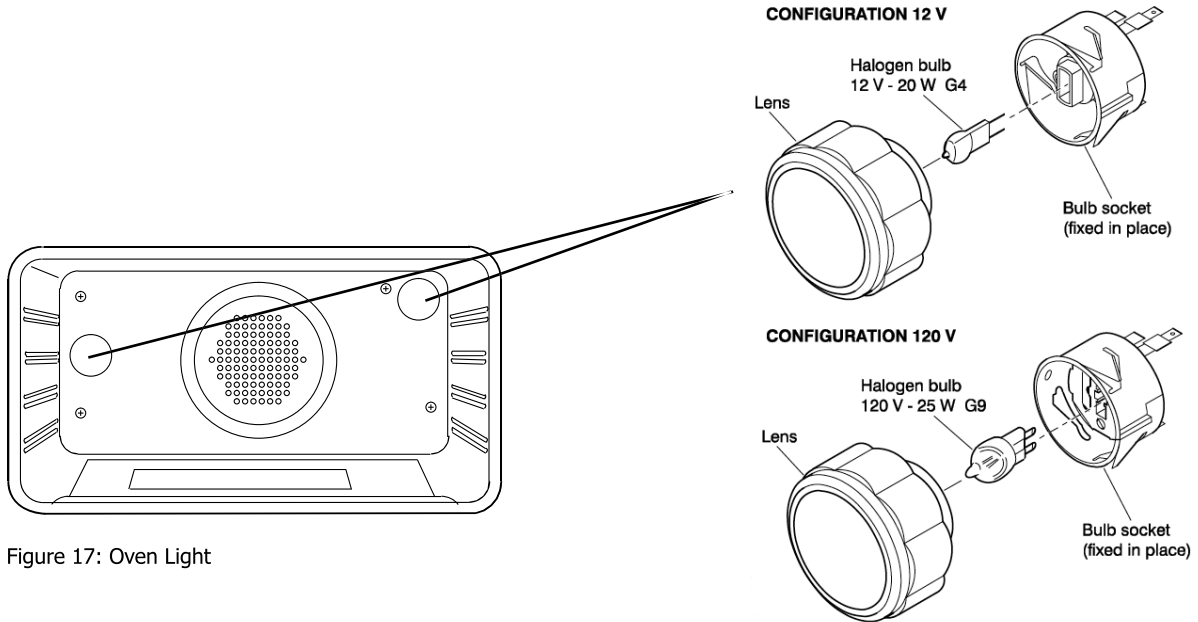

Figure 17: Oven Light
- Each light assembly consists of a removable lens, a light bulb and a light socket housing that is fixed in place (see Figure 17, next page).
To replace a light bulb (see figure 17, next page):